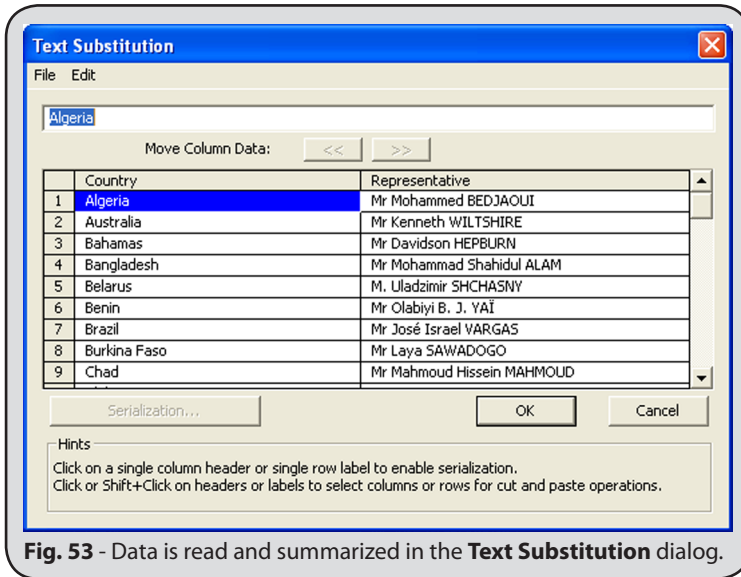

Fig. 53 - Data is read and summarized in the **Text Substitution** dialog.
- The **Text Substitution** dialog will open (Fig. 53).